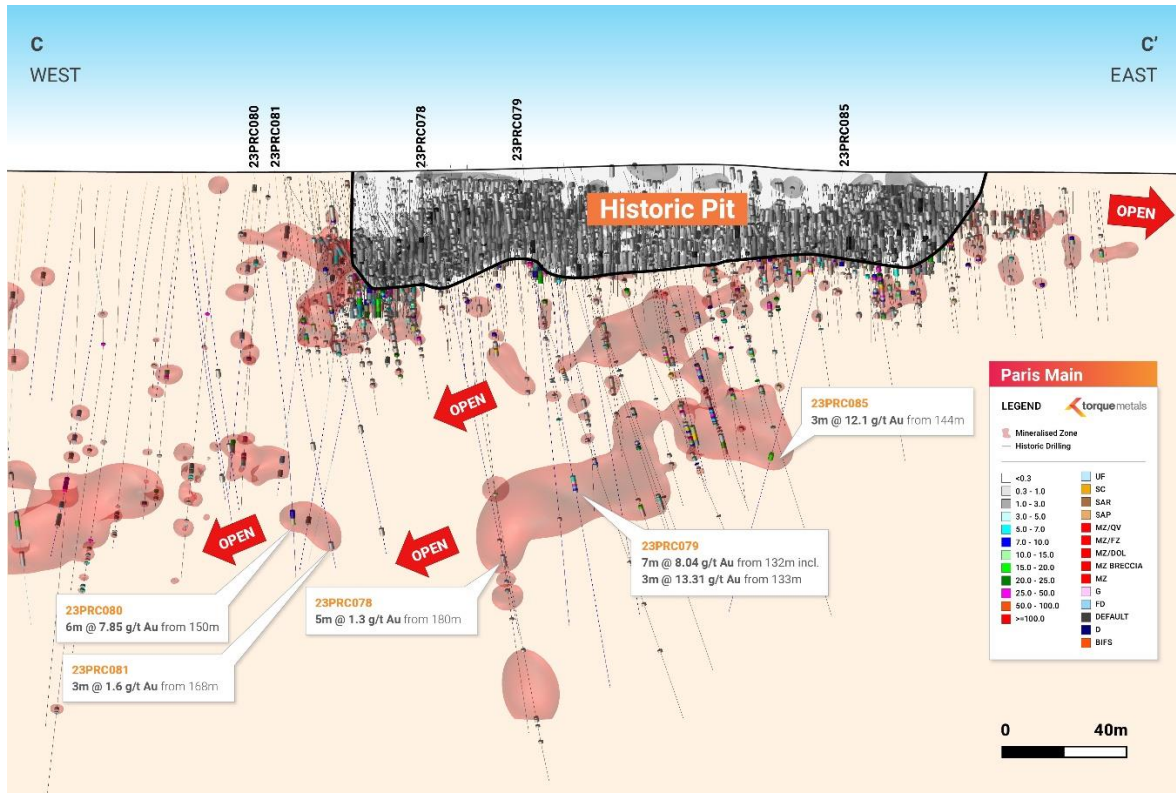

Figure 4 Paris prospect, Paris southern lode, W-E section of the mineralised structure
- Paris southern mineralised lode extended 50m laterally to west and 40m east and plunging 150m south of the Paris open cut (Figures 4, 5), with best intercepts of: